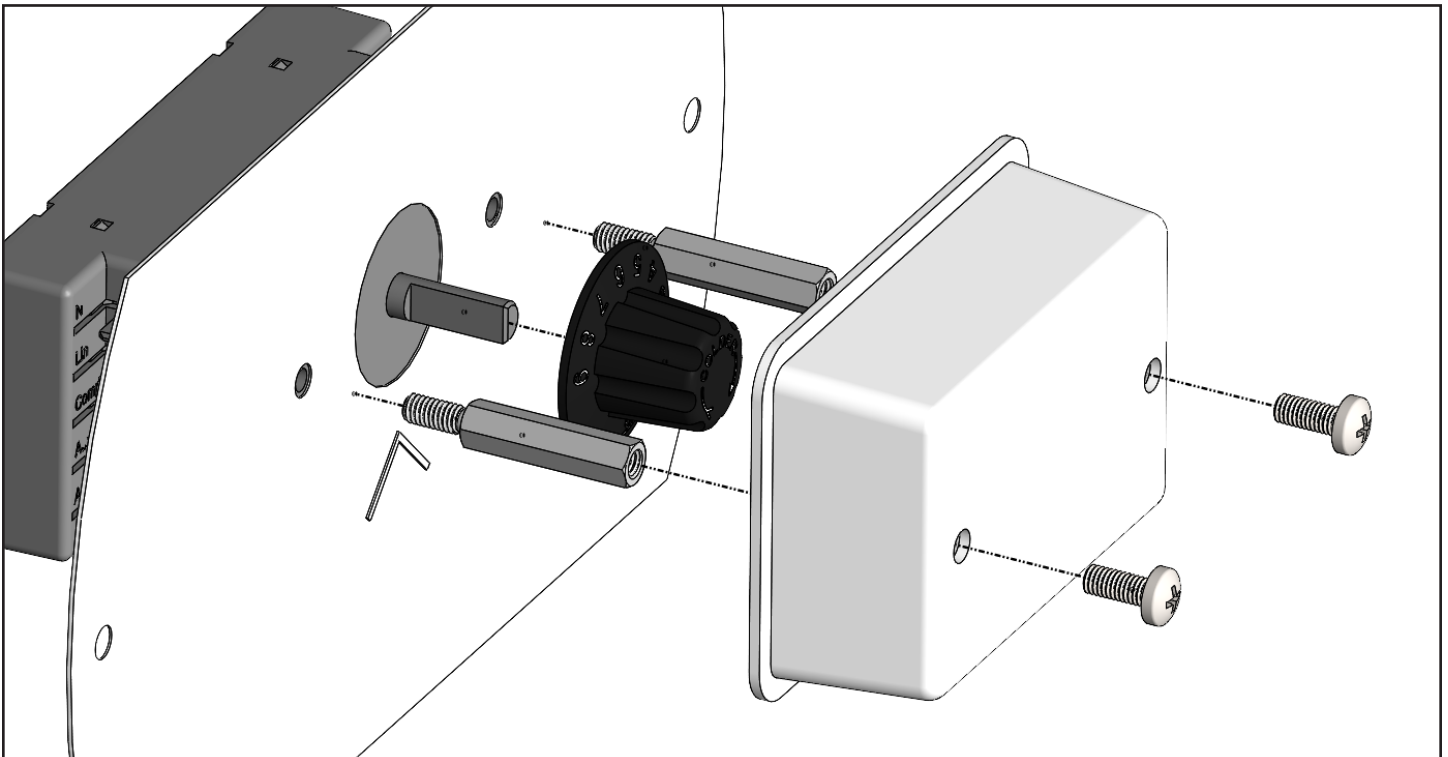

Fig. 5. Exploded view of control knob and control knob cover installation.
2. install the knob and knob cover per fig. 5. Use the provided pan head Phillips screws.